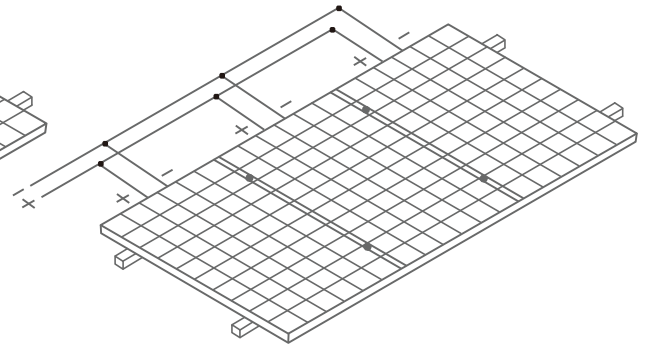

Figure 5 Connection in parallel
- When connected in parallel, the current output is equal to the sum of each string's current (as shown in Figure 5). Fuse is necessary for each module string. Take reference to the local regulation. Recommended maximum parallel Modules configurations: Fuse rating/ (1.3* short-circuit current).